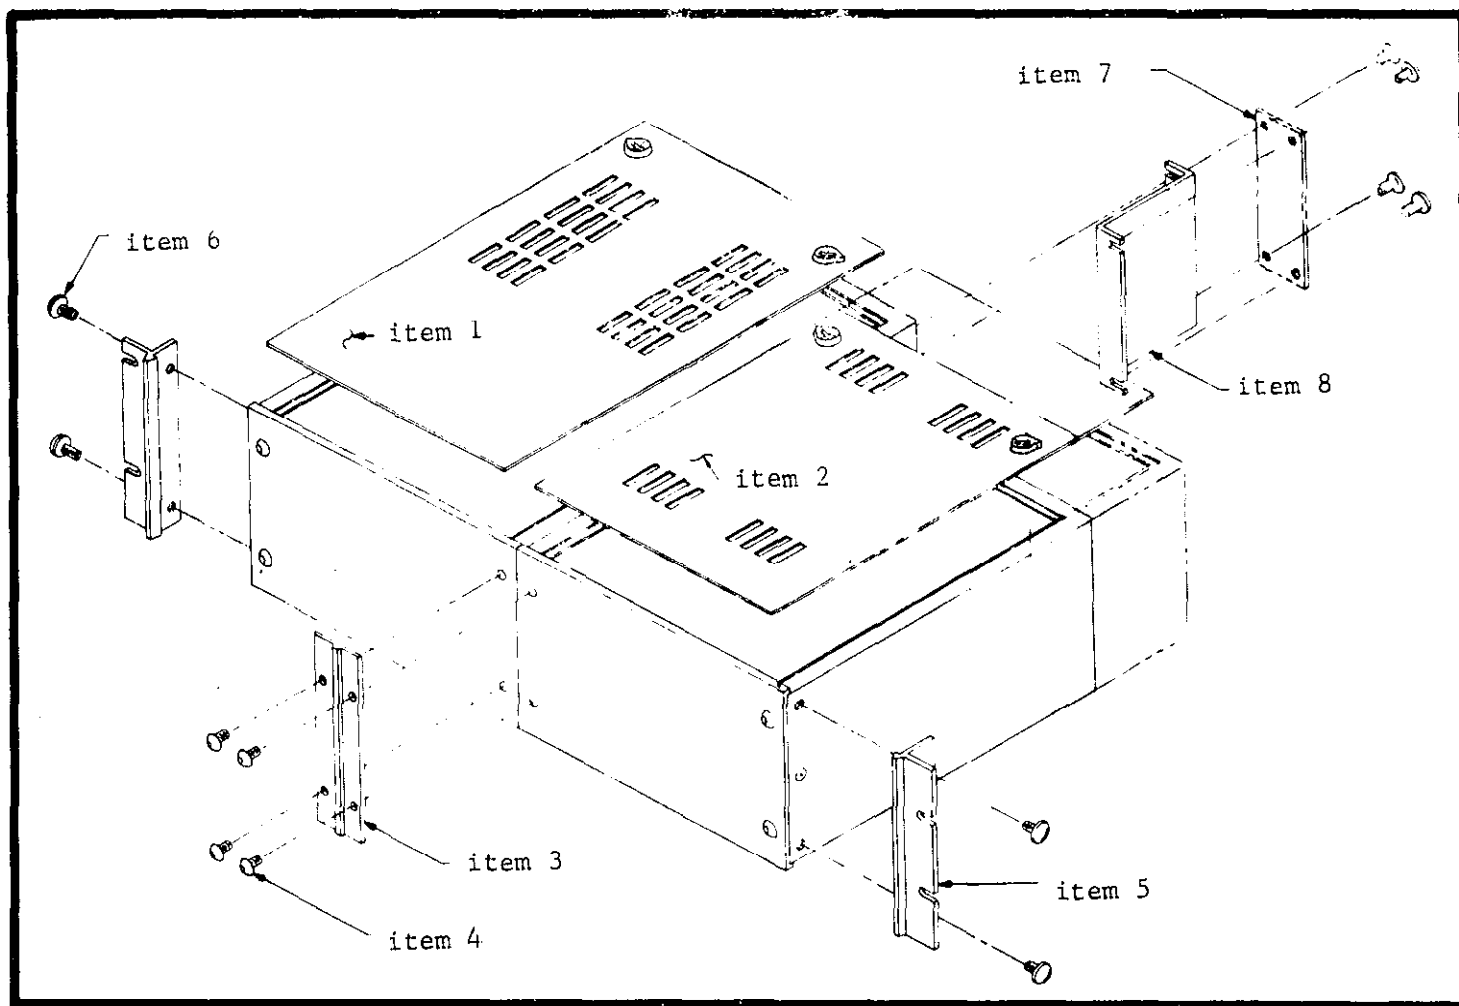

FIGURE 20. Exploded View of Keithley Model 4007 Dual Rack Mounting Kit. Refer to Table 14 for parts list.
b. Procedures. Remove the wrap-around cover on each instrument by removing the two corner screws at the bottom of each side. Assemble the rack mounting parts as shown in Figure 20. Attach as follows when rack adapting two 10-inch instruments or two 13-inch instruments: cover (1 or 2), two rack angles (5), chassis connecting plate (7), and chassis connecting plate (3). Attach as follows when rack adapting one 13-inch deep instrument and one 10-inch deep instrument: cover (1 or 2), two rack angles (5), zee bracket (8), chassis connecting plate (7) and chassis connecting plate (3).